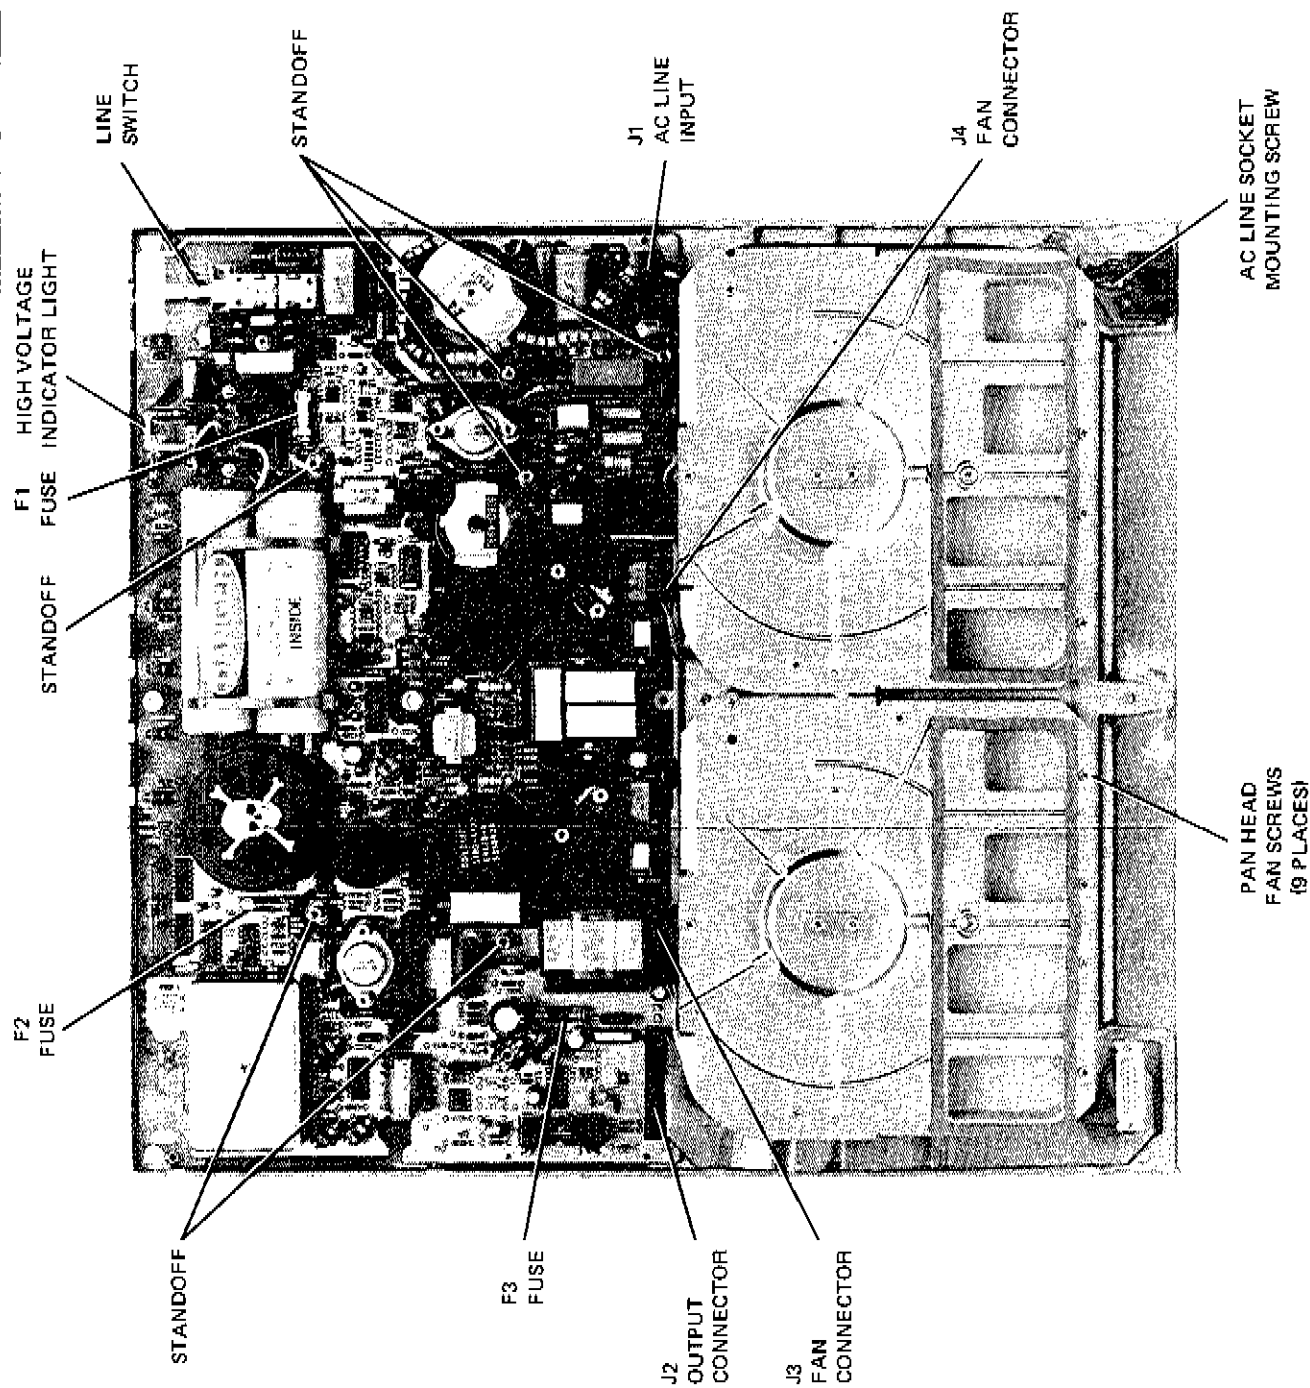

Figure 3. HP 70001A Power Supply Board and Fans
The Power Supply Board has lethal voltages, with lethal currents, in ALL areas. ALWAYS remove the power cord before servicing. NEVER service with power on; observe the HIGH VOLTAGE indicator light on the board (see Assembly Repair, Figure 3).
2. Check power supply fuse F2. See bottom cover removal and Figure 3 in Assembly Repair.
4. Check power supply fuse F3. If power supply fuse F3 is open, the instrument is latched in a fault condition, it will not attempt to restart. Replace fuse (see Assembly Repair, Power Supply Board Removal, and Figure 3).
The Power Supply Board has lethal voltages, with lethal currents, in ALL areas. NEVER service this board with power on; observe the HIGH VOLTAGE indicator light on the board (see Assembly Repair, Figure 3). Use extreme care when servicing the power supply board—dangerous voltages can exist on the board EVEN when the power is OFF.
5. Remove the following connectors (see Figure 3):
1. Turn instrument OFF (0).
3. Remove the fan connector from connector J3 or J4 (corresponding to fan being removed (see Figure 3)).
4. Remove the fan screws as indicated in Figure 3.
1. Turn instrument OFF (0) and remove power cord.
3. Remove the AC Line cable from the power supply board AC input connector, see Figure 3.